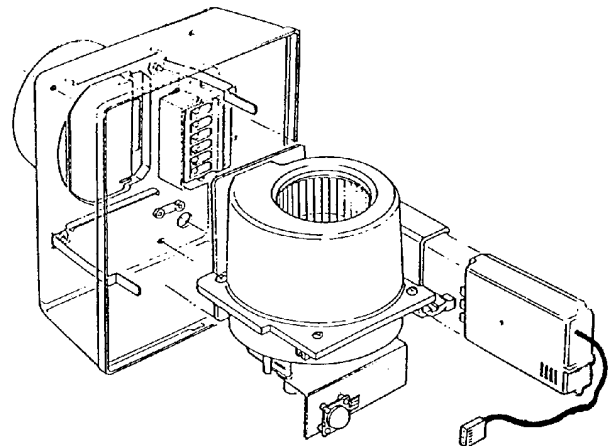

Fig. 4. Electronic control module and Fan/Motor assembly
2. Remove the plug-in electronic control module . (Fig. 4)